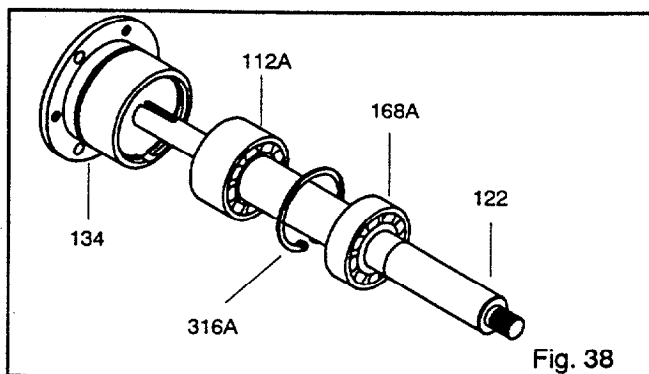

Fig. 38
6. Remove bearing housing (134) from shaft (122) with bearings (112A, 168A) (Fig. 38).